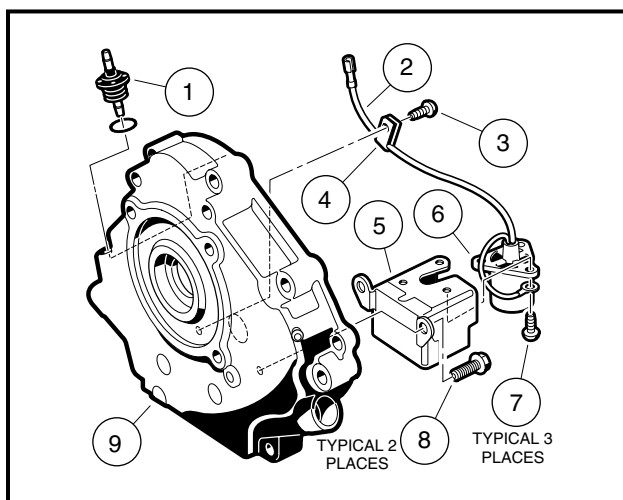

Figure 18-38 Oil Level Sensor
1. Disconnect the oil level sensor wire (2) from the cord connection (1) (**Figure 18-38, Page 18-21**).
2. Remove screw (3) from the wire clamp (4).
3. Remove the two mounting screws (8) from inside of the crankcase cover and remove the oil level sensor and bracket.
4. Remove the three screws (7) holding the sensor (6).
1. Install a new sensor (6) into bracket (5) and secure with three screws (7) and tighten to 17 in-lb (1.9 N-m) (**Figure 18-38, Page 18-21**).
2. Position the sensor and bracket on inside of crankcase and install two mounting screws (8).
3. Connect sensor wire (2) to cord connector (1).
4. Install screw (3) through wire clamp and into crankcase cover. Tighten to 30 in-lb (3.4 N-m).